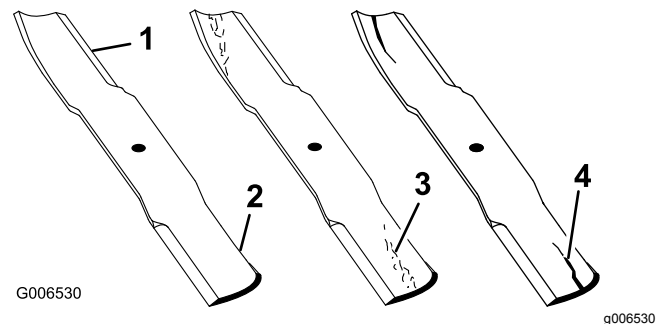

Figure 96
- Inspect the cutting edges (Figure 96).
- If you notice any cracks, wear, or a slot forming in this area, immediately install a new blade (Figure 96).